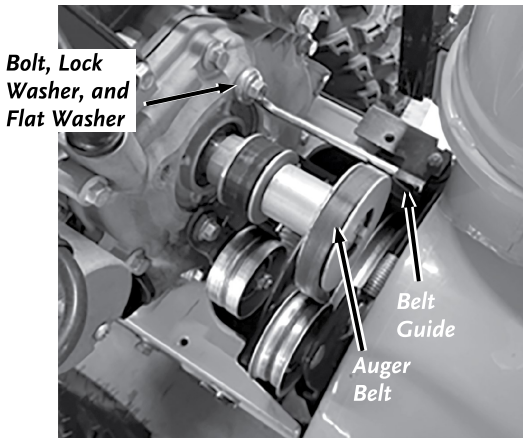

Figure 40
2. Remove the two Bolts, Lock Washers and Flat Washers that secure the Belt Guide to the Engine using a 13mm Wrench and remove the Belt Guide (**Figure 40**).
4. Roll the Auger Belt off the front of the Auger Drive Pulley (**Figure 40**).